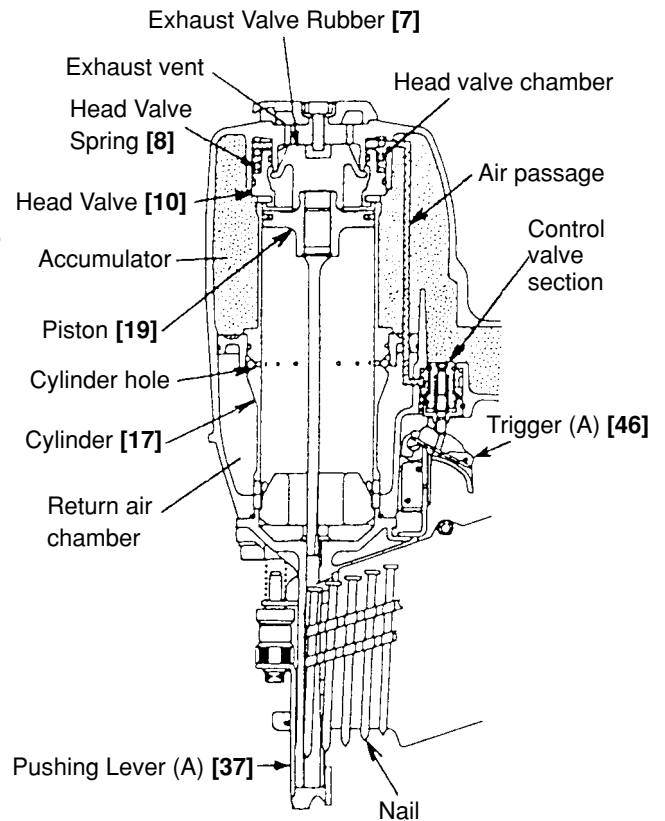
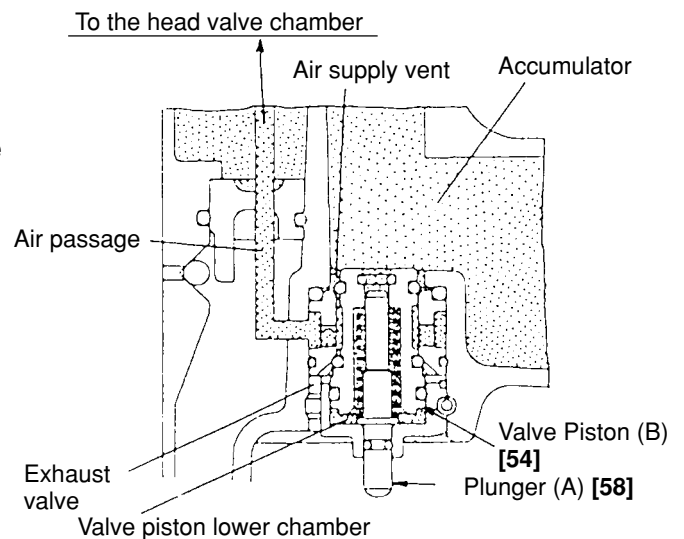

Fig. 5
Fig. 6 Control valve section
(1) Before nailing (See Fig. 5 and Fig. 6.)
(2) When nailing (See Fig. 4 and Fig. 5.)